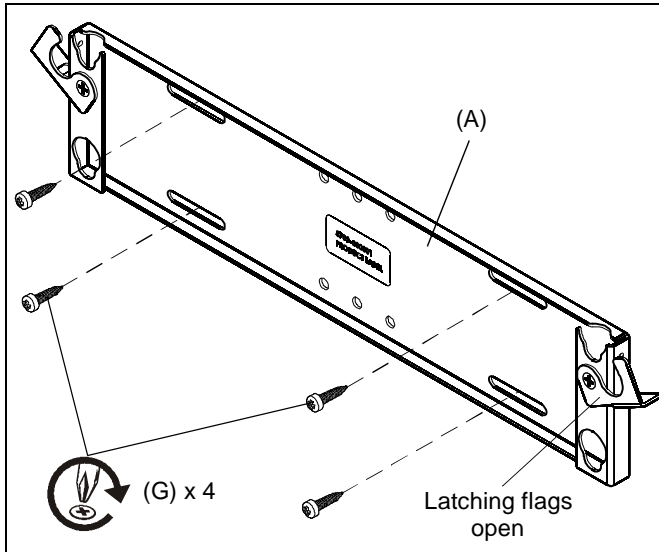

Figure 4
3. Secure speaker bracket (A) to anchors in wall using four #10 x 1-1/2" Phillips head screws (G). (See Figure 4)
1. Open latching flags on speaker bracket. (See Figure 4)